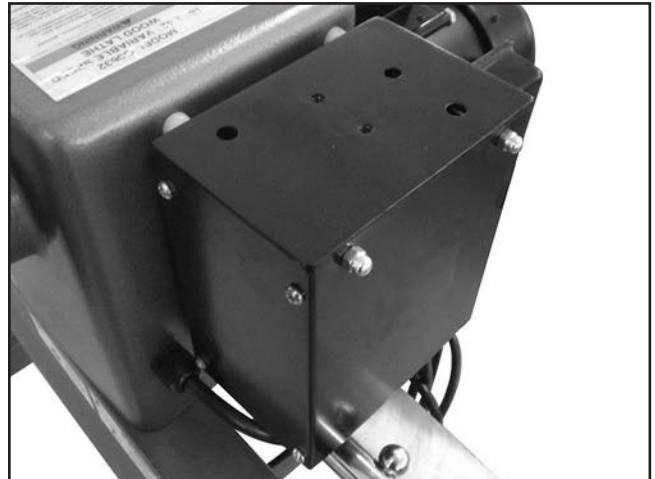

Figure 3. Inverter cover.
The Model G0632Z uses an ATV-13 variable-frequency inverter to control motor speed. The inverter cover features a removable side panel that encloses the power cords and (3) Type-3 M20-1.5 strain-relief connectors (see **Figure 3**).